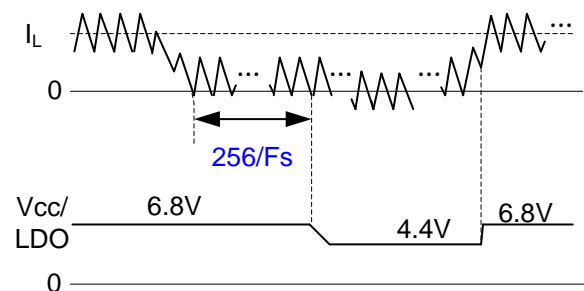

Figure 14: Time Diagram for Smart LDO
The smart LDO selects its output voltage according to the load condition by sensing the inductor current (IL). At light load condition, the inductor current can fall below zero as shown in Figure 14. A zero crossing comparator is used to detect when the inductor current falls below zero at the LDrv Falling Edge. If the comparator detects zero crossing events for 256 consecutive switching cycles, the smart LDO reduces its output to 4.4V. The LDO voltage will remain low until a zero crossing is not detected. Once a zero crossing is not detected, the counter is reset and LDO voltage returns to 6.8V. Figure 14 shows the timing diagram. Whenever the device turns on, LDO always starts with 6.8V, then goes to 4.4V / 6.8V depending upon the load condition. However, if only Vin is applied with Enable low, the LDO output is 4.4V.